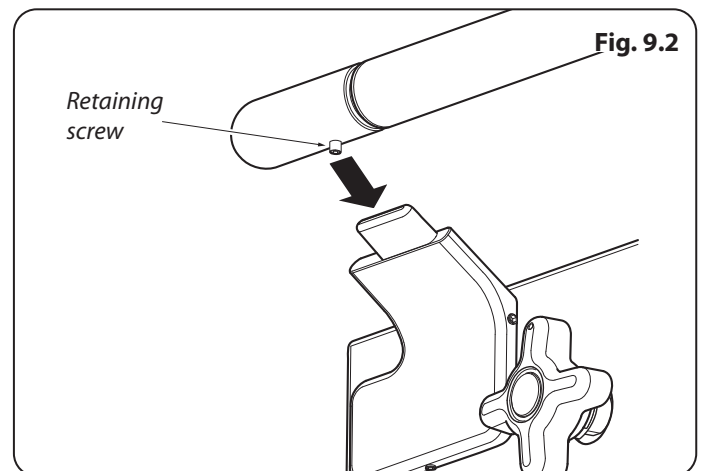

Fig. 9.2
3. Locate the handrail onto the support tabs and, using the 3 mm Allen key supplied, tighten the one retaining screws in the bottom to secure (**Fig. 9.2**).